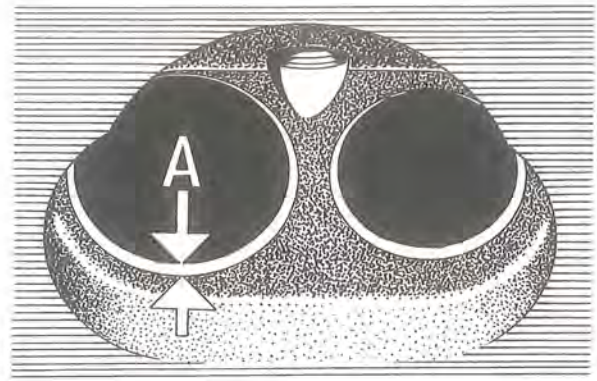

Fig. 2-20. Valve seat width A=2 mm (.08")
2. Grind the valve seats. Use an electrically driven grinder or a hand milling cutter. A pilot spindle must be carefully fitted before work is started and any worn guides must be replaced with new ones. The seat should be ground until a good sealing surface is obtained. The angle is 45° and the width of the sealing surface is approx. 2 mm (.08"), see "A" Fig. 2-20. If the sealing surface is too wide after grinding, it can be reduced by using a 70° grinding stone from the inside and a 20° grinding stone from the outside.